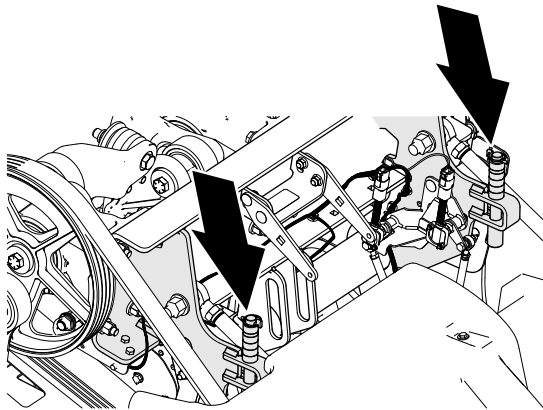
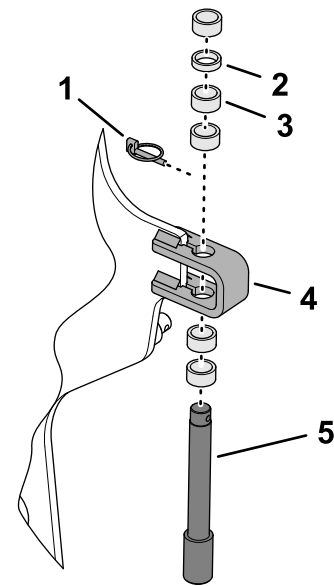

Figure 111
Figure 112
3. Remove the lynch pin that secures the depth-stop pin and spacers to the stop bracket (Figure 111 and Figure 112).